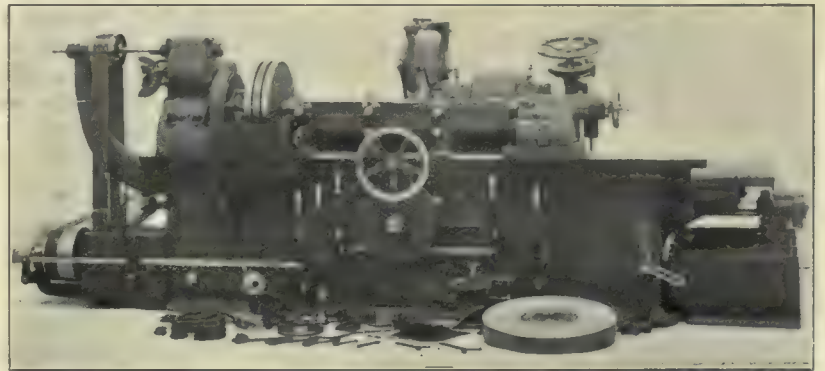

Fig. 6.—Landis Grinding Machine With Gap, Front View.
This machine is also adapted for railroad shop work for grinding locomotive pistons, piston valves, valve stems, crank, link and knuckle pins, axles, etc. It is provided with a gap, as shown by Fig. 6, so that pistons can be ground with their heads in place and also for the swing of valve yokes when grinding the stems. The gap can be located along the table to suit the work when the machine is built. The machine is of the self-contained type and is designed to be driven either by a motor or from the line shaft.
Fig. 6 shows the operation of drawing the pattern. The molder operates the air valve which admits air to the cylinder with his right hand, and with his left hand opens a pet cock, admitting air to the Adams Pneumatic Rapper which is mounted on the frame work carrying the pattern. The pattern is drawn perfectly straight to any desired height before starting to roll over, and this combined with the pneumatic rapper and the steady air control insures a good clean lift. It will be seen that as cylinder, E, is raised by the air pressure within, the pattern will be drawn straight until the yoke, F, strikes the pin, G, when the yoke must stop, making a fulcrum of the pin, H.
- Fig. 6.—Drawing the Pattern, Farwell Molding Machine.